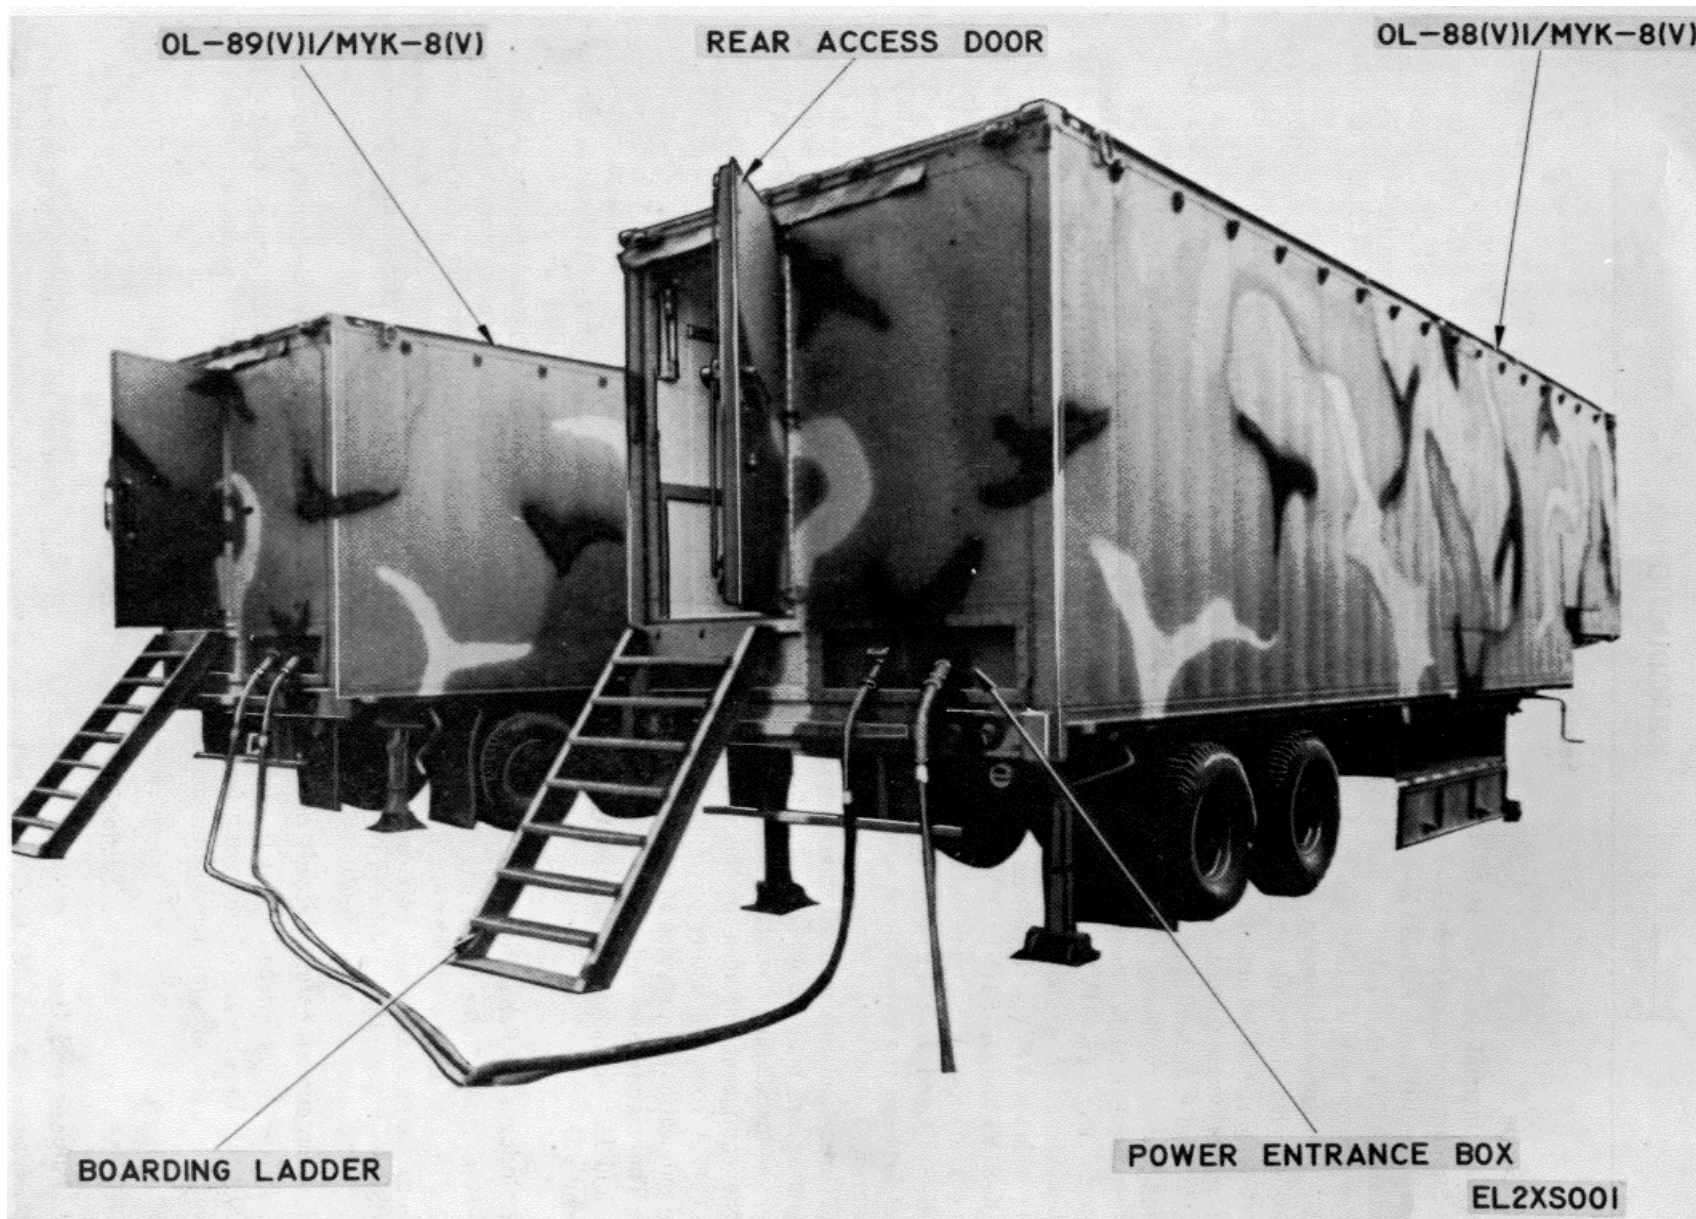

Figure 1-1. Data Analysis Central OL-88(V)1/MYK-8(V) and Data Storage Group OL-89(V)1/MYK-8(V), Rear Curbside View.
a. This manual describes Data Analysis Services Support Systems AN/MYK-8(V)1 (systems 1 through 10) and AN/MYK-8(V)3 (systems 11 through 16) (fig. 1-1, 1-2, and 1-3) and includes service and installation, operating instructions, operator maintenance instructions, organizational maintenance, equipment functioning, direct support maintenance instructions, and general support maintenance.
b. Official nomenclature followed by (*) is used to indicate all models of the systems referenced in this manual. Data Analysis Services Support Systems AN/MYK-8(V) (*) represents the two systems listed in a above. Furthermore, OL-88 (V) (*)/MYK-8(V) represents OL-88(V)1/ MYK-8 (V) and OL-88 (V) 3/MYK-8 (V); OL-89 (V) (*) /MYK-8 (V) represents OL89 (V) 1/ MYK-8 (V) and OL-89 (V) 3/MYK-8 (V). Differences between the two systems are described in paragraph 1-9.
c. Throughout this manual, where appropriate, references are made to other publications which cover the installation, operating, and maintenance of the equipment installed in the AN/MYK-8 (V) (*). A complete listing of applicable reference publications is provided in appendix A.